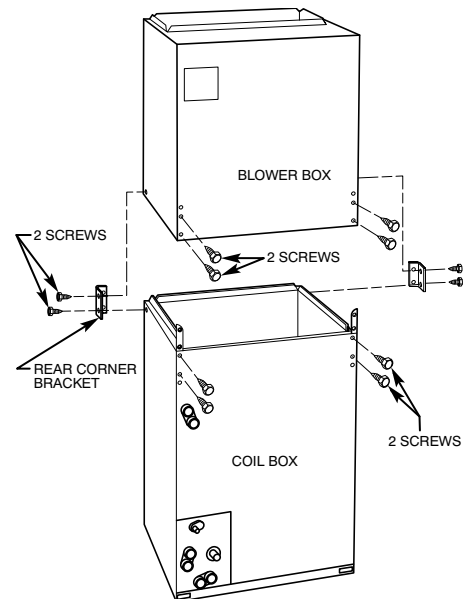

Fig. 5 – Modular Unit Assembly
Some sizes of the Fan Coils are available in 2-piece modular construction. Modular construction allows installer to disassemble unit into 2 components, coil box and blower box, for ease of installation (refer to Product Data Sheet, and Fig. 5).
3. Remove blower and coil access panels and fitting panel (see Fig. 5).